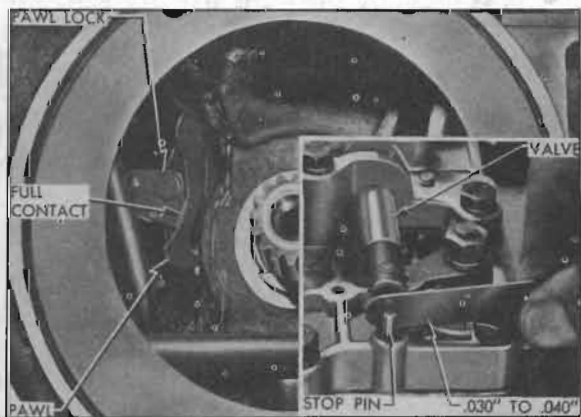

Figure 4-146—Control Valve Linkage Adjustments
8. Temporarily install the shift lever on cross shaft and operate the valve linkage to make sure it works freely. Move lever toward front of transmission to engage parking lock pawl in the ratchet wheel. When pawl is fully engaged in the wheel, the pawl lock must be in full contact with pawl. See figure 4-146.
and end of valve, using feeler gauge. Clearance should be .030" to .040". See figure 4-146. When clearance is correct, the spring travel at end of shift lever will be $\frac{1}{8}$ " to $\frac{3}{16}$ ".